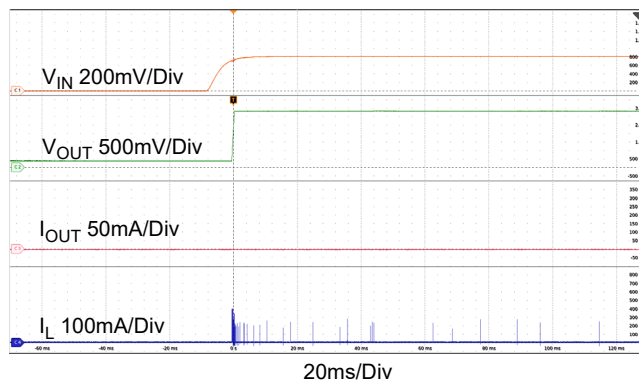

Figure 3. ISL9116B Start-Up with $V_{IN} = 0.8V$ and $V_{OUT} = 3.3V$
The default output voltage is set at 3.3V. Use the following procedures to configure and power up the board properly. During the power-on process, the expected waveforms are shown in Figure 3.
6. Monitor the output voltage start-up sequence on the scope. The waveforms should look similar to those shown in Figure 3.